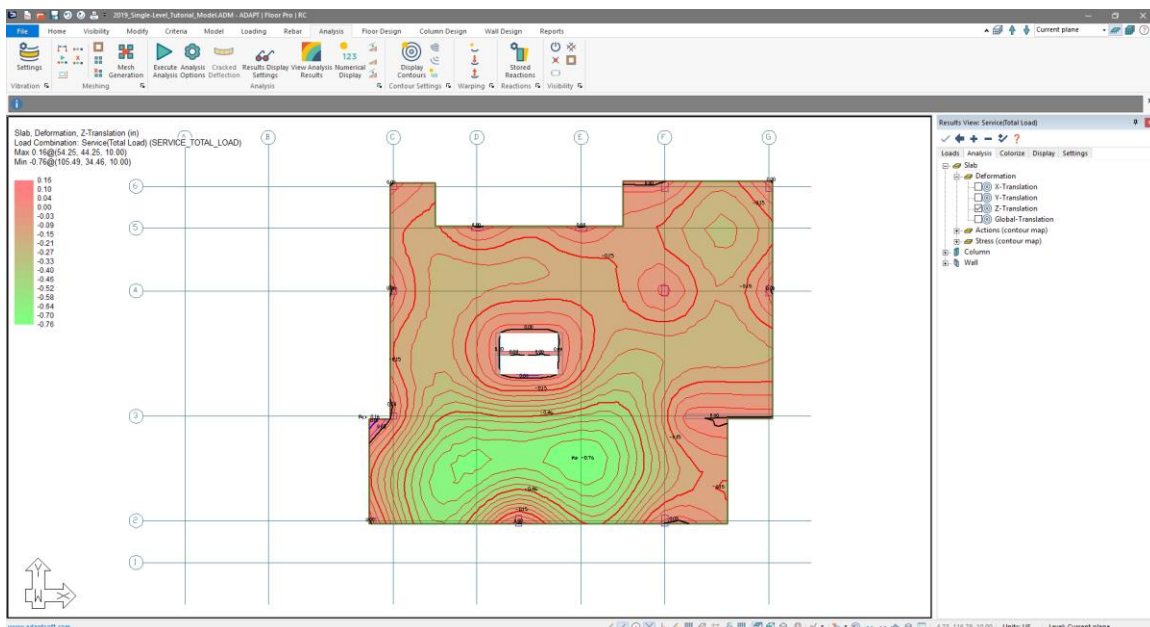

Figure 3-8
- Click on the *Zoom Extents*  icon. The user should see now see the deflection contour for all levels as shown in **FIGURE 3-8** below.